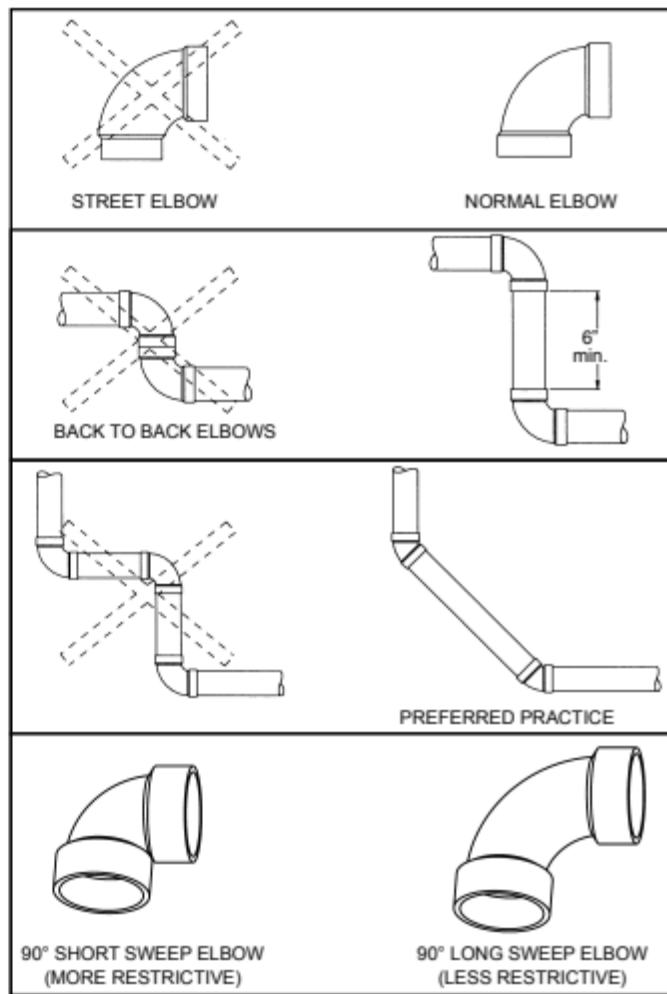

Figure 31.
Note: The information provided in Figure 31 is intended as a guideline for good vent installation practices only and is not intended to restrict venting options beyond those restrictions established by the current edition of the **"National Fuel Gas Code", ANSI Z223.1/NFPA 54** or any applicable local and state codes.
3. Avoid using 90° elbows "back to back" and do not use street elbows. Maintain a minimum 6" straight section between elbows. Closely coupled and short radius elbows reduce the venting capacity. Figure 31 shows examples of vent pipe connections.